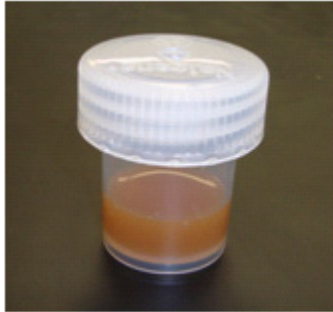

Figure 22 SOLiD™ P1 DNA Beads mixed in aqueous phase.
3. Immediately add 160 μL of the SOLiD™ P1 DNA Beads to the aqueous phase, then mix by gently swirling the bottle to ensure that the beads are uniformly dispersed (see Figure 22).